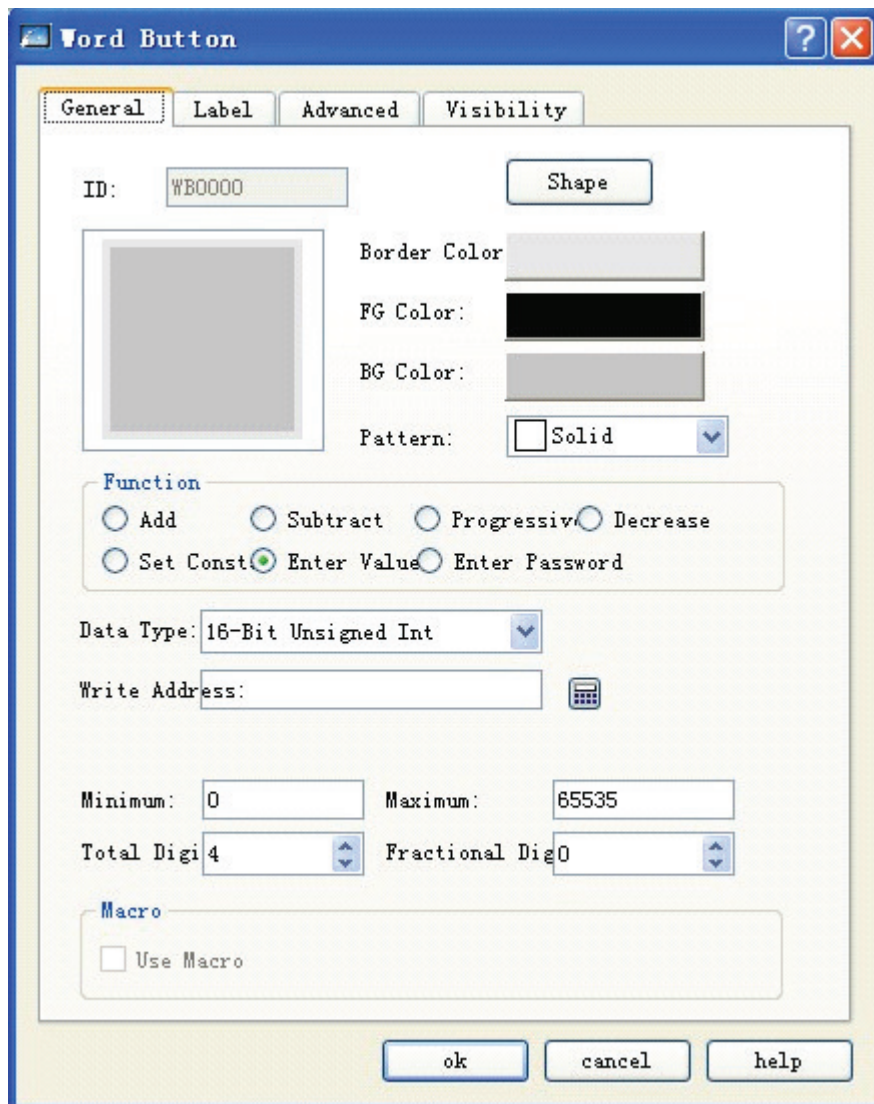

Figure 4-81: Word Button dialog
- Choose Word Button icon  in the tool bar, and then a dialog as shown in Figure 4-81 will pop up.